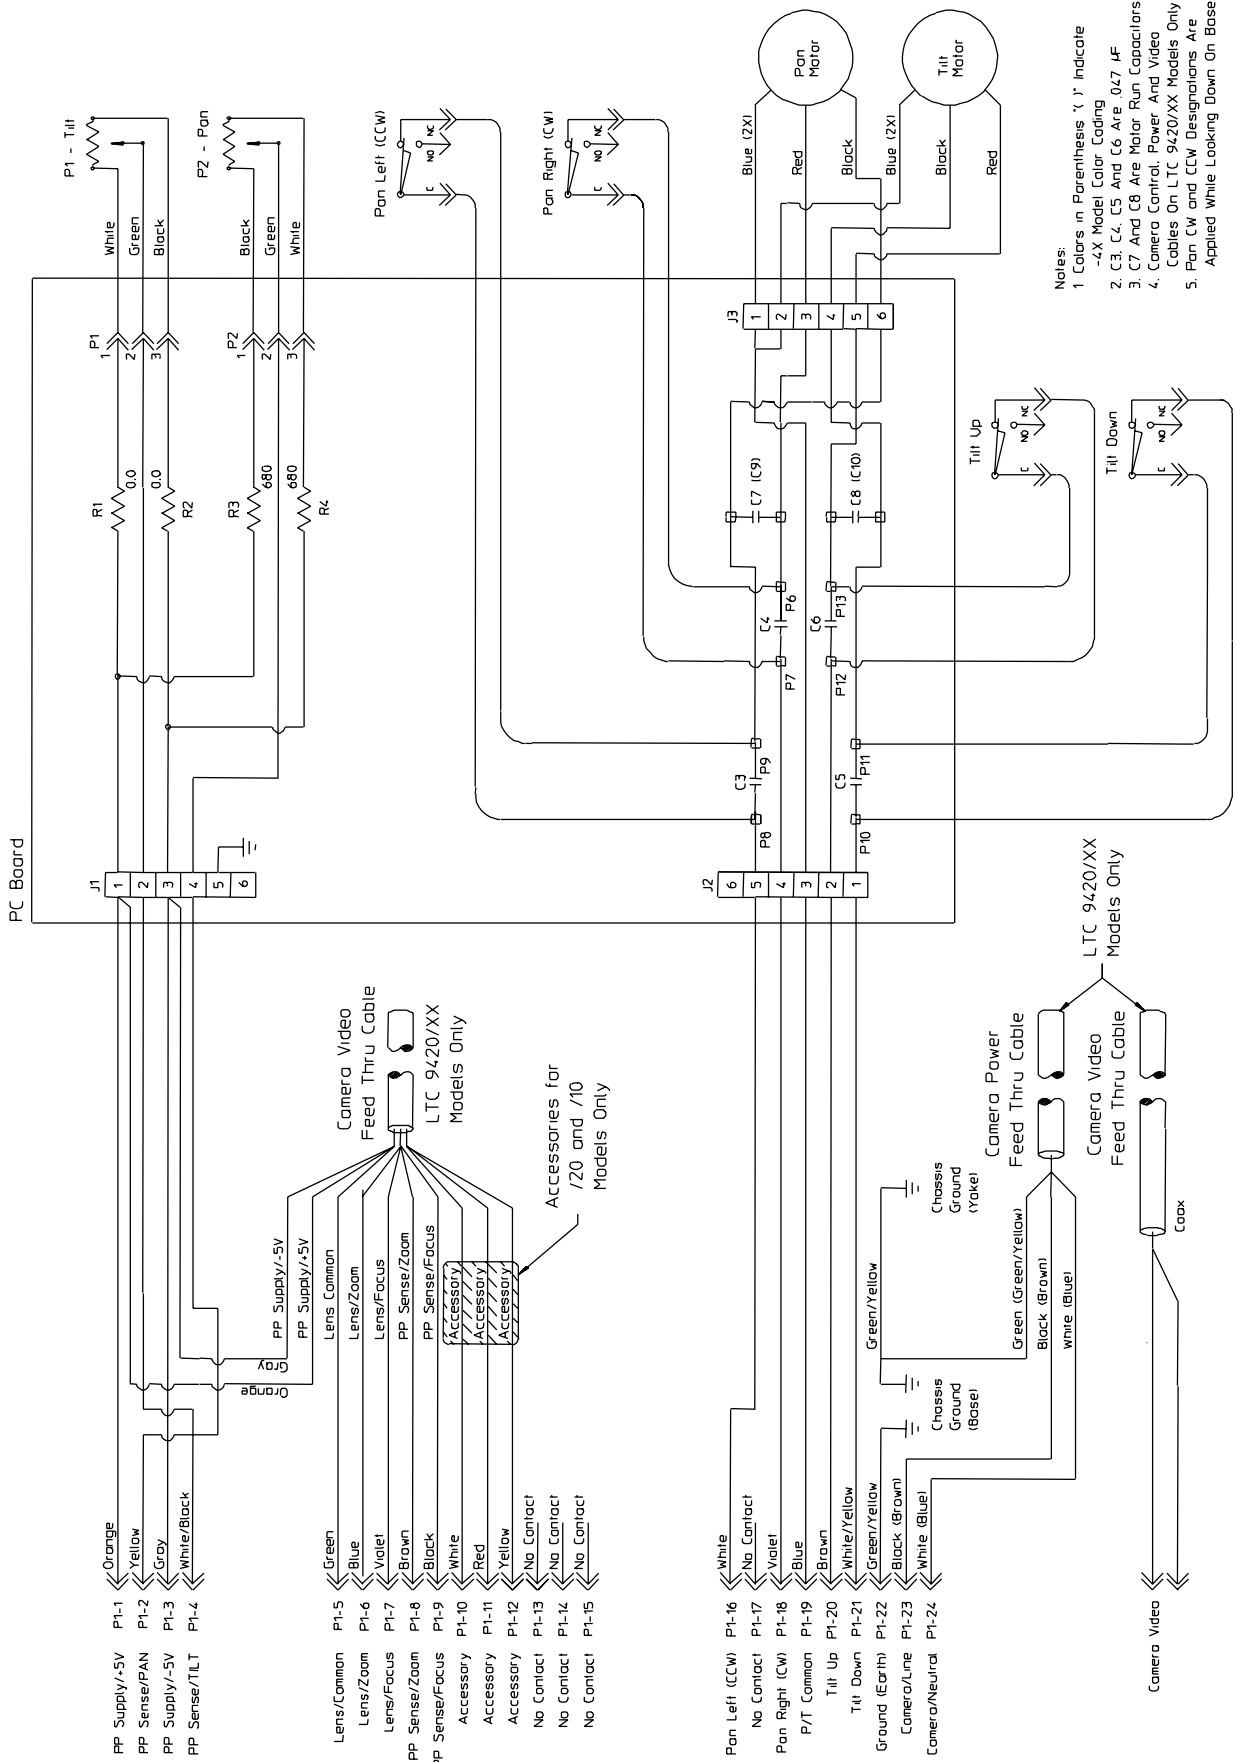

Figure 6: Wiring Diagram - 0° to 345° Models
4. (Color Codes) shown are for 24 volt and 110 volt models. For 220 volt models, color codes are (23) Brown, and (24) Blue.
6. Refer to **Figure 6** under Wiring Diagrams for the wiring schematic.
Use of the auto-pan function requires wiring connections to pin 16 (Pan Left), pin 18 (Pan Right), and pin 19 (Common). See **Figure 6**. The auto-pan function is achieved by the controller unit sensing changes in current flow through the pan motor. When a pan stop is reached, the current flow stops and internal circuitry of the controller unit reverses the auto-pan direction.